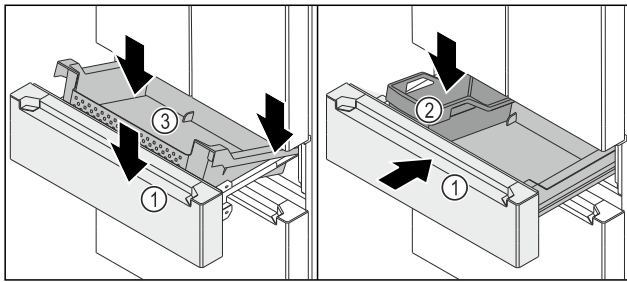

Fig. 128
- The pull-out cart *Fig. 128 (1)* is pulled out.
- Place the container Fig. 128 (3) to the back on the right and left rails.
- Lower the container Fig. 128 (3) at the front so that the container Fig. 128 (3) encloses the rails on the right and left.
- Insert the FlexBox Fig. 128 (2).
- Push in Fig. 128 (1) the pull-out cart.